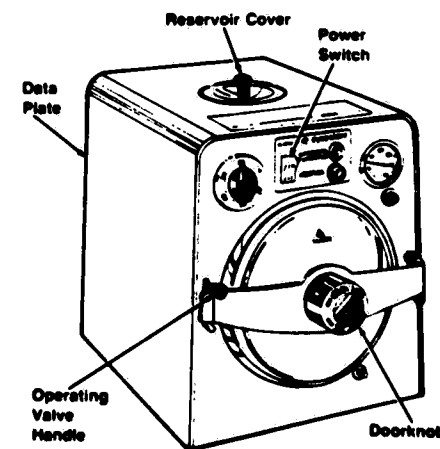

Figure 1. Sterilizer.
1. AT THE BEGINNING OF THE DAY (Refer to Fig. 1)